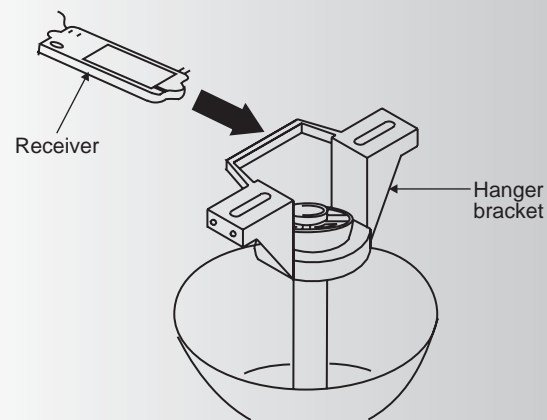

Fig. 13
Step 1. (Fig. 13) Insert the receiver into the mounting bracket with the flat side of the receiver facing the ceiling.